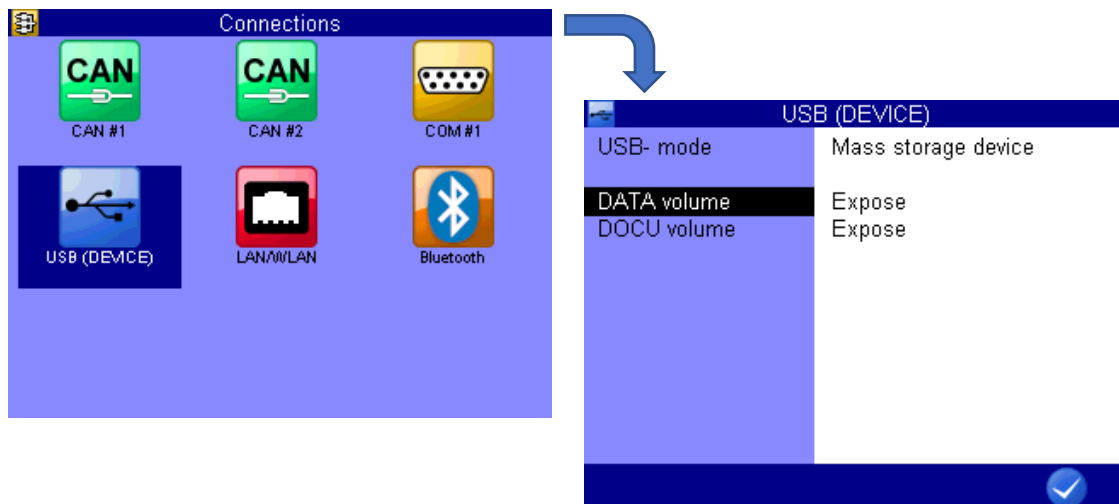

Figure 21: Enabling internal memory for the data export
- The menu window depicted on the right in Figure 21 appears. Change the DATA volume element to "Enable."